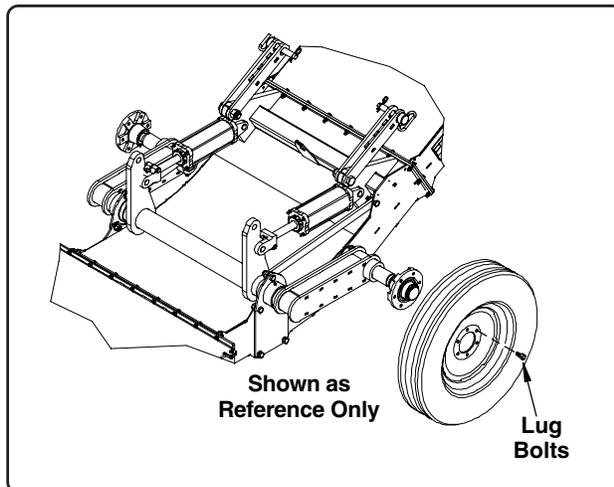

Fig. 14
1. Mount the tires and rims to the axle hubs and secure using the lug bolts provided (See Fig. 14). Verify tire pressure is correct using the PSI rating stated on the tire.